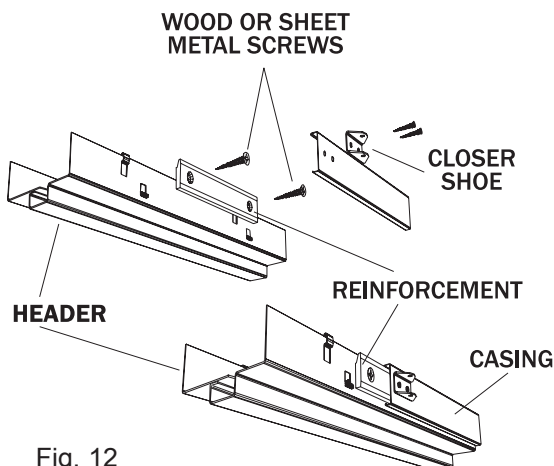

Fig. 12
- 1** Position closer reinforcement on header where the door closer shoe is to be mounted (Fig. 12).
- 3** Drill 3/16" (5) pilot holes in the header through the countersunk holes in the reinforcement and secure with 1-1/4" (32) Type "S" Bugle Head Self-Tapping Screws.